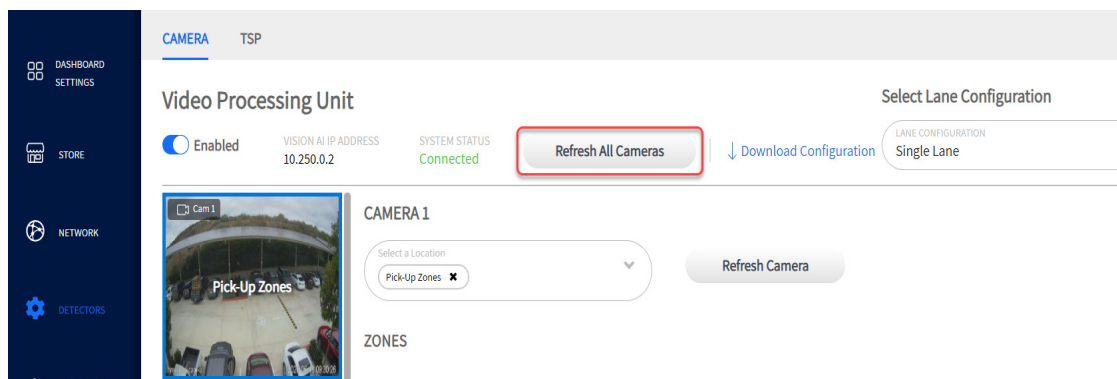

Fig. 5.3
4. All installed cameras are displayed in tiles stacked vertically on the left. Click on a Cam tile to select it. A selected tile is indicated by a blue frame around it (Fig. 5.3 for example shows the top tile (Cam 1) selected).